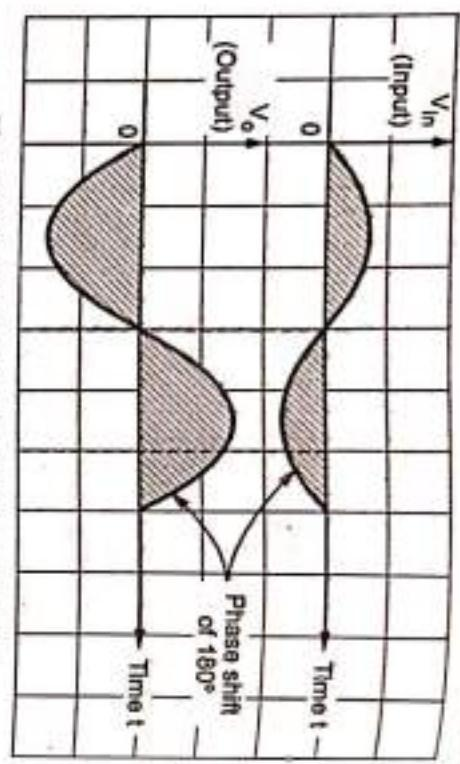

Fig. Q.44.2 Waveforms of Inverting amplifier
- The waveforms of inverting amplifier are shown in the Fig. Q.44.2.